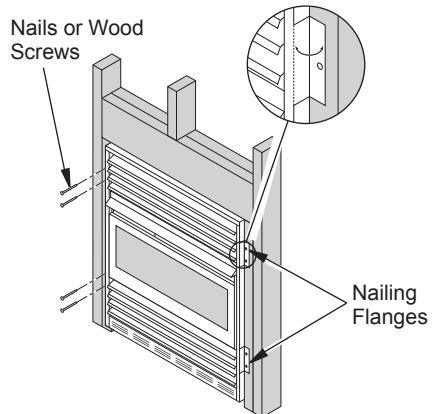

Figure 11 - Attaching Fireplace to Wall Studs
- Bend four nailing flanges on outer casing with pliers (see Figure 11).